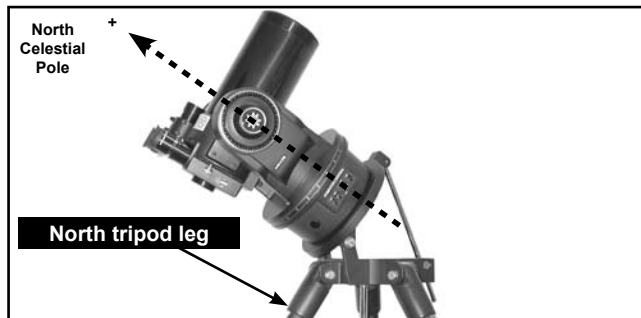

Figure 20: Example of Polar Alignment. Note that the face of the tilt-plate points north
3. Turn the tripod, so that the face of the tilt-plate points North (Figs. 20). If you attach the telescope to the tripod indoors, be sure to orient the face of the tilt-plate to point North after moving the telescope outdoors. Equivalently, point the tripod leg (Fig. 20) North. This is the leg opposite from the latitude control bar (Fig. 18).
6. If you have not already done so orient the tripod leg (Fig. 20) so that it is pointing due North (if the location of Polaris, the North Star, is known, point the telescope directly at Polaris. Observers located in the Earth's Southern Hemisphere must point the telescope due South).